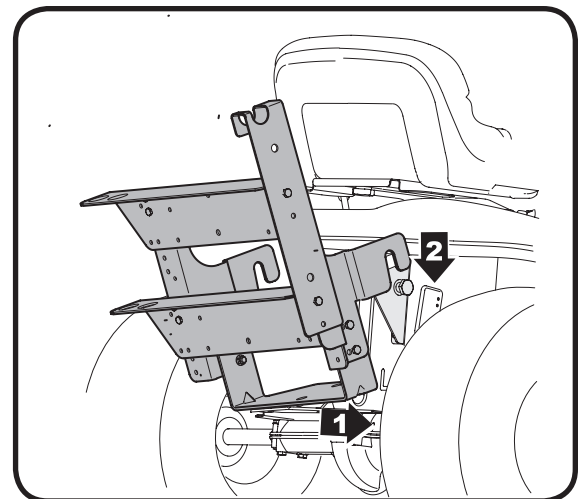

Figure 3-7
5. Position the hooked ends of the mounting bracket assembly to the outside of the support brackets and over the shoulder bolts just installed on both sides of the tractor frame. See Fig. 3-7.
4. Position the hooked ends of the mounting bracket assembly to the outside of the support bracket and over the shoulder bolts on both sides. Refer back to Fig. 3-7 for reference.